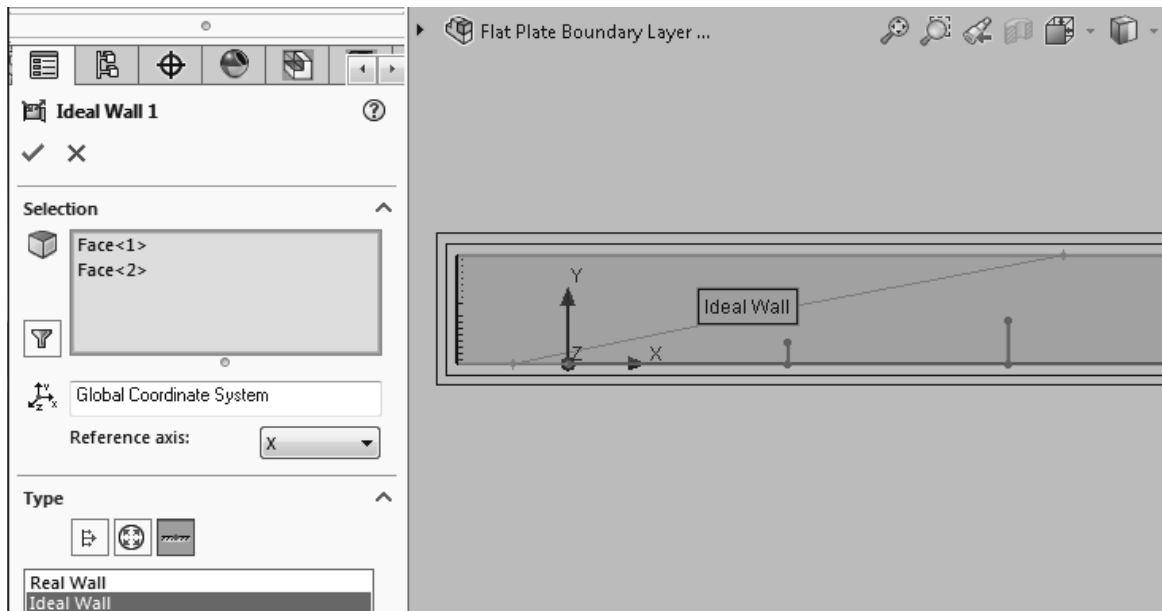

Figure 2.19 Ideal wall boundary condition for two wall sections
19. Enter the following boundary conditions: **Ideal Wall** for upper wall and lower wall at the inflow region, see figures 2.19. These will be adiabatic and frictionless walls.